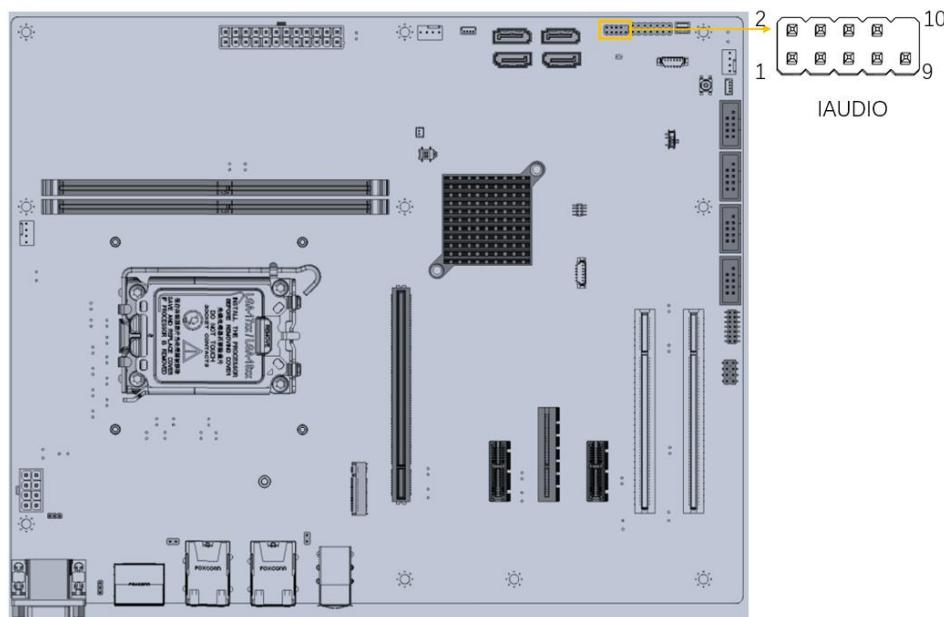

Figure 3-6: Audio Connector For IEI AC-KIT-888S Kit Location
The AT/ATX power mode selection is made through the AT/ATX power mode switch which is shown in Figure 3-6.
- CN Location:** See **Figure 3-6**